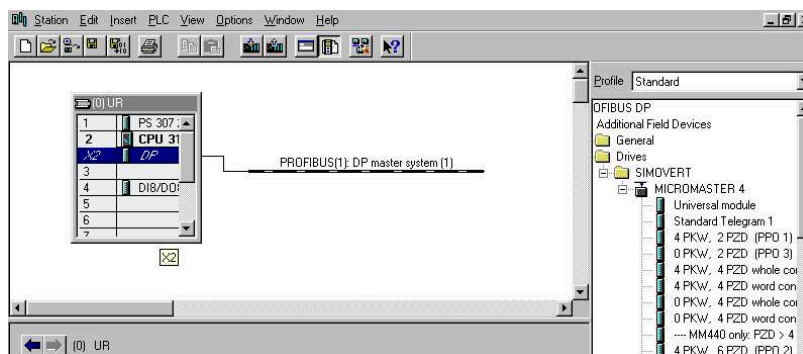

Figure 6-12 Selecting the Type of Inverter
20. In the right-hand window, select MICROMASTER 4 from the PROFIBUS DP top level folder. (see Figure 6-12).